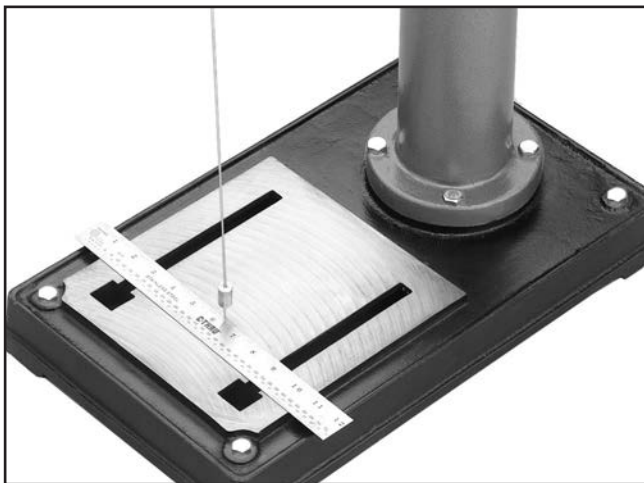

Figure 19. Aligning headstock with base.
19. Suspend a plumb bob from center of headstock spindle so it is over tape/ruler as shown in **Figure 19**.
20. Center headstock directly over base as indicated by plumb bob and ruler (see **Figure 19**).